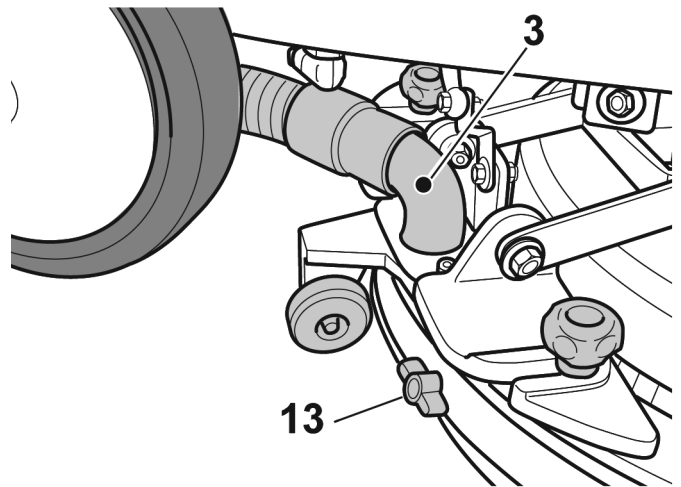

Fig 12
- Check that the hose and connector on the squeegee are not blocked and that the hose is connected correctly (Fig 12).